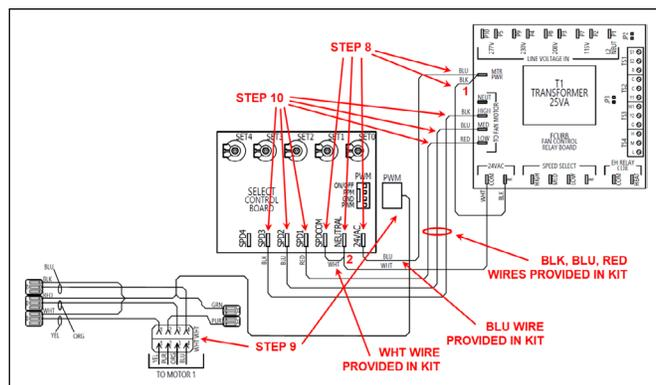

Figure 48 - Select PWM Electrical Connections
CONNECT POWER TO SELECT PWM (See Figure 48)
CONNECT MOTOR CONTROL SIGNAL TO SELECT PWM (See Figure 48)
CONNECT FAN CONTROL WIRES TO SELECT PWM (See Figure 48)
- Ensure that the new wires have been connected as specified in Figure 48.